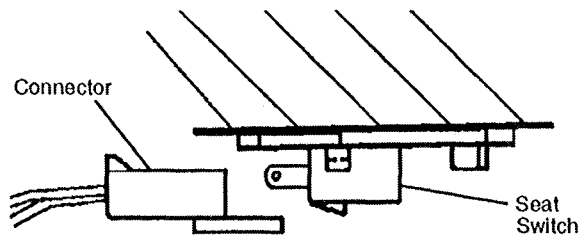

FIG. 7
- Connect the operator's seat switch connector on to the switch located on the bottom of the seat. Insure the connector locks onto the switch body. (See Fig. 7)